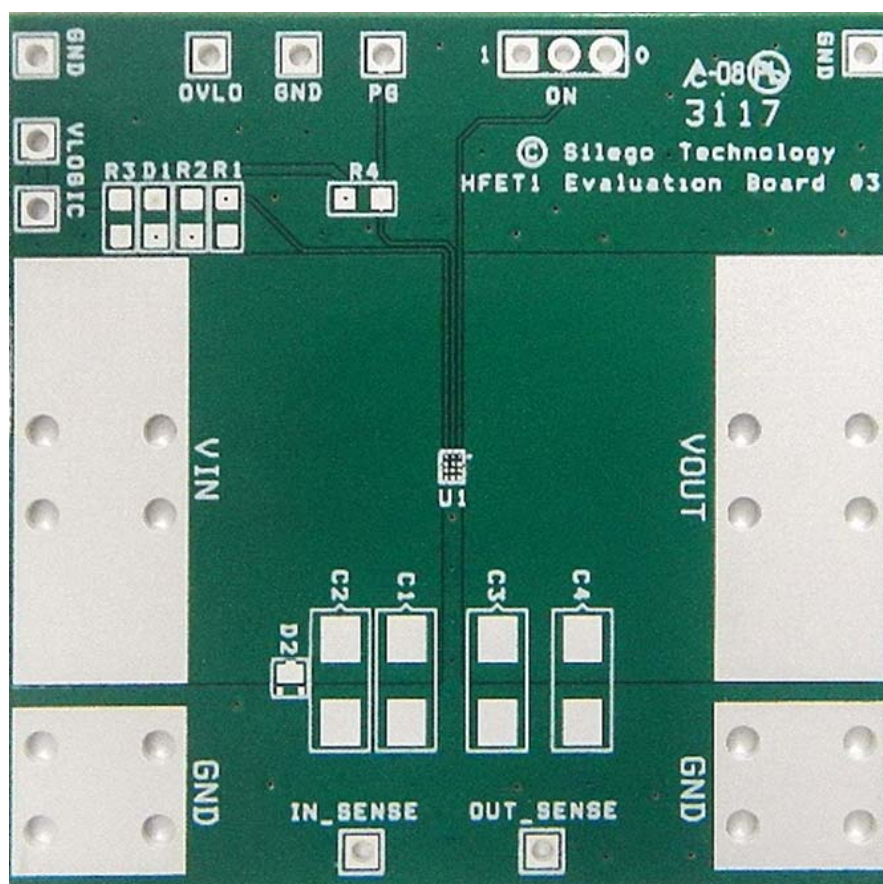

Figure 30. SLG59H1313C Evaluation Board
1. Since the IN and OUT pins dissipate most of the heat generated during high-load current operation, it is highly recommended to make power traces as short, direct, and wide as possible. A good practice is to make power traces with absolute minimum widths of 15 mils (0.381 mm) per Ampere. A representative layout, shown in Figure 30, illustrates proper techniques for heat to transfer as efficiently as possible out of the device;
A HFET1 Evaluation Board for SLG59H1313C is designed according to the statements above and is illustrated on Figure 30. Please note that evaluation board has D_Sense and S_Sense pads. They cannot carry high currents and dedicated only for RDS_{ON} evaluation.